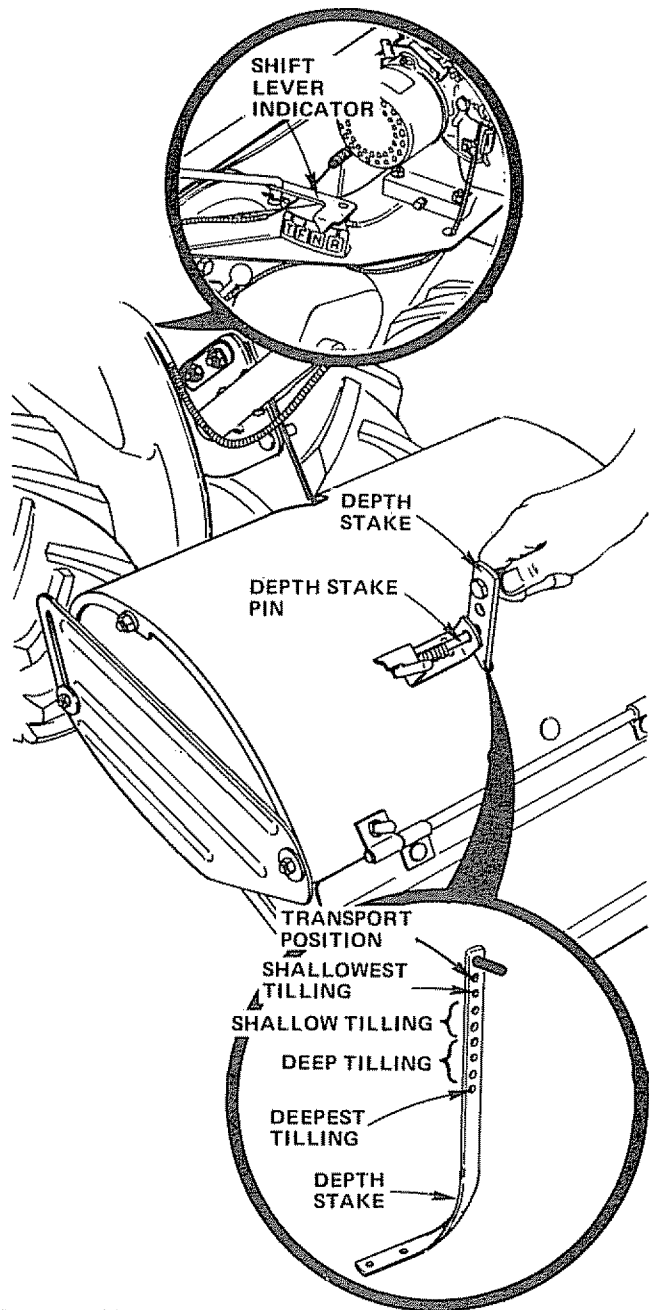

FIGURE 16
- a. Release the Depth Stake Pin (Fig. 16). Pull the Depth Stake up for increased tilling depth. Place Depth Stake Pin in hole of Depth Stake to lock in position (Fig. 16).
- b. Place Shift Lever Indicator (Fig. 16 - Inset) in the "T" (TILLING) position.
- c. Place Shift Lever Indicator (Fig. 16 - Upper Inset) in the "R" (reverse) position.
- b. Move Shift Lever Indicator (Fig. 16 - Upper Inset) to "N" (neutral) position.
- c. Place Shift Lever Indicator (Fig. 16 - Upper Inset) in "F" (forward) position. Tines will not turn.